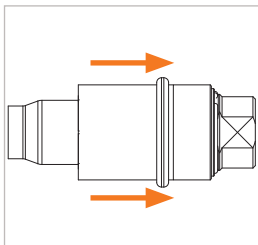

Figure 8
- ▶ Pull the grip sleeve (Pos. 1) back (*Figure 8*). The connection to the hose is released and the connector can be removed by pulling it straight back.